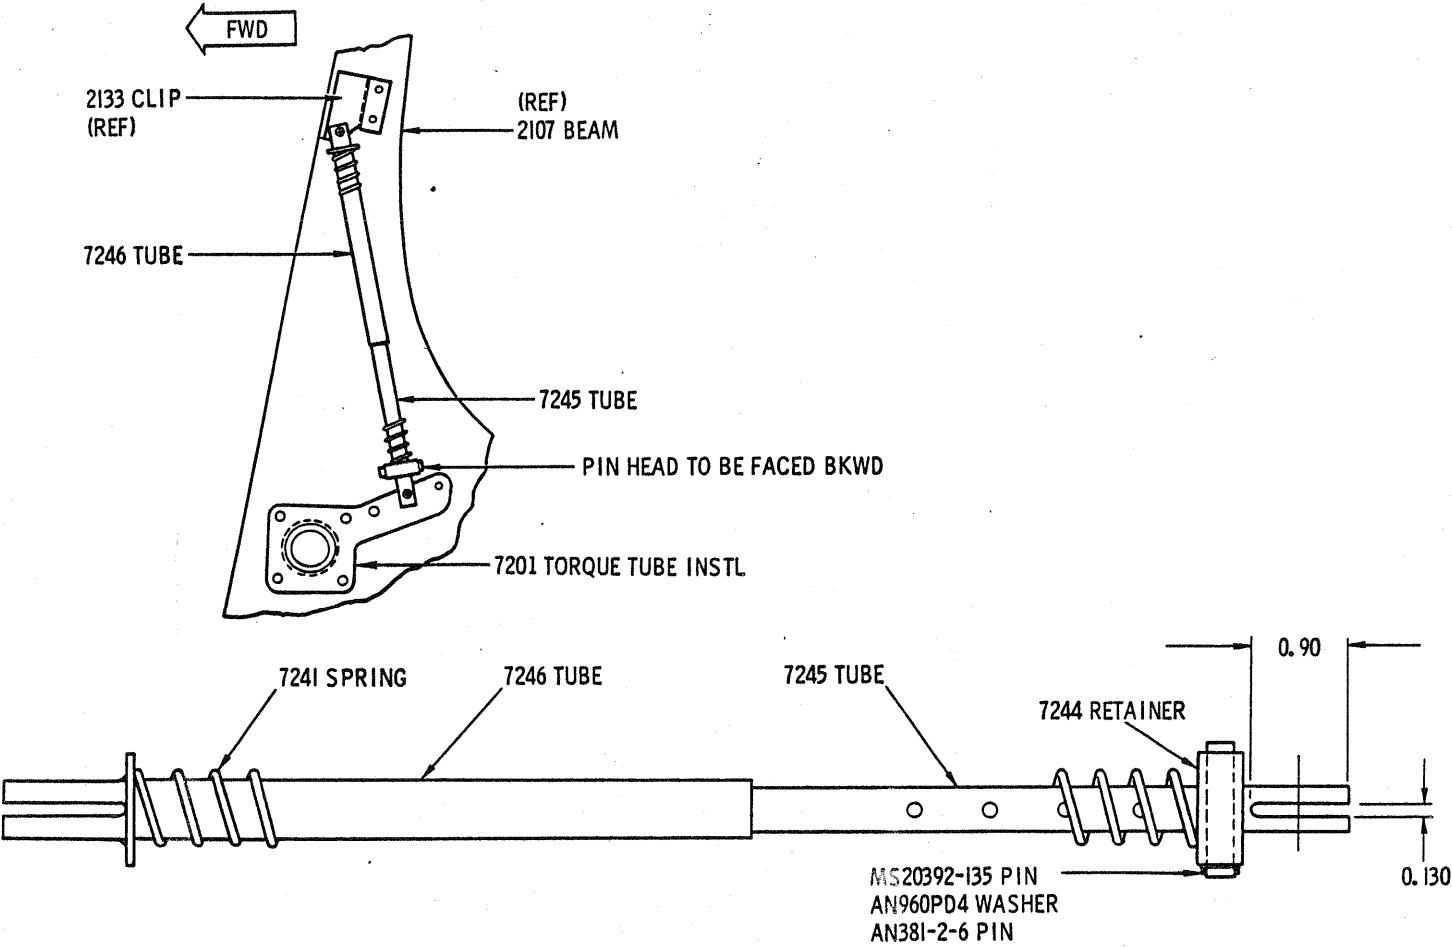

Figure 1. Collective Bungee Spring - Reverse Installation
- c. Remove pin, washer, cotter pin, spring and retainer from 7245 tube. (Per Figure 1)